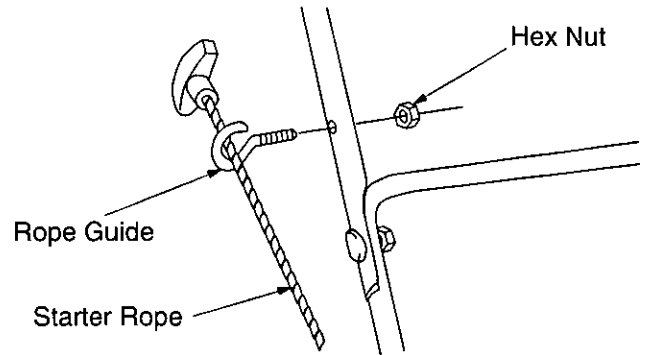

Figure 8
- Place the rope guide around the starter rope, so the opening in the rope guide is toward the front of the mower as shown. Insert the rope guide into the right side of the handle, and secure with hex lock nut. See Figure 8.